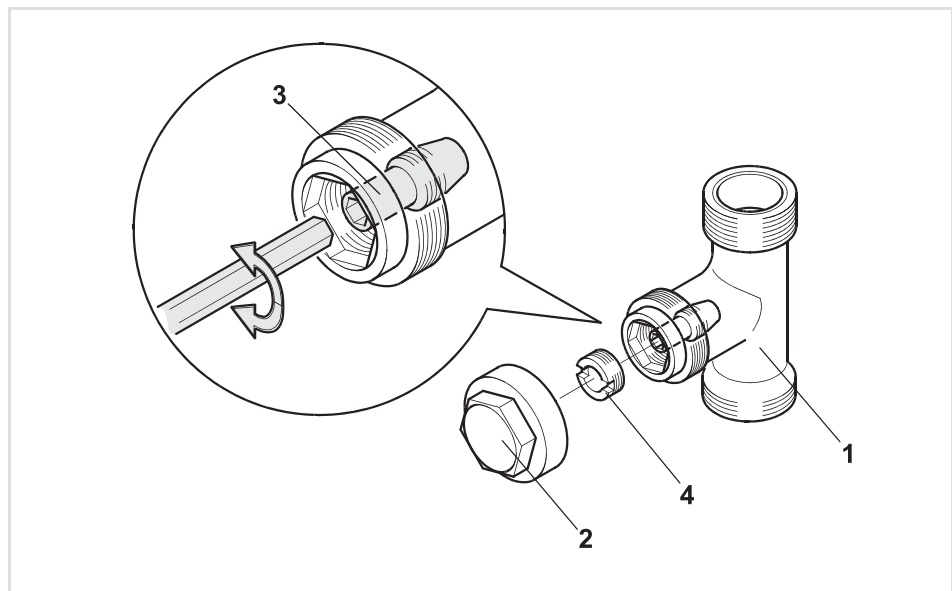

Fig. 7-2: Adjusting shut-off valves
- Unscrew the protective cap (Fig. 7-2, Pos. 2).
- Close the valve by tightening the internal flow-control screw (Fig. 7-2, Pos. 3) using a 4 mm hex key until the stop position on the right side.
- Tighten the pre-setting screw (Fig. 7-2, Pos. 4) until the stop position on the right side.
- Use the hex key to open the flow-control screw (Fig. 7-2, Pos. 3) until the stop position.